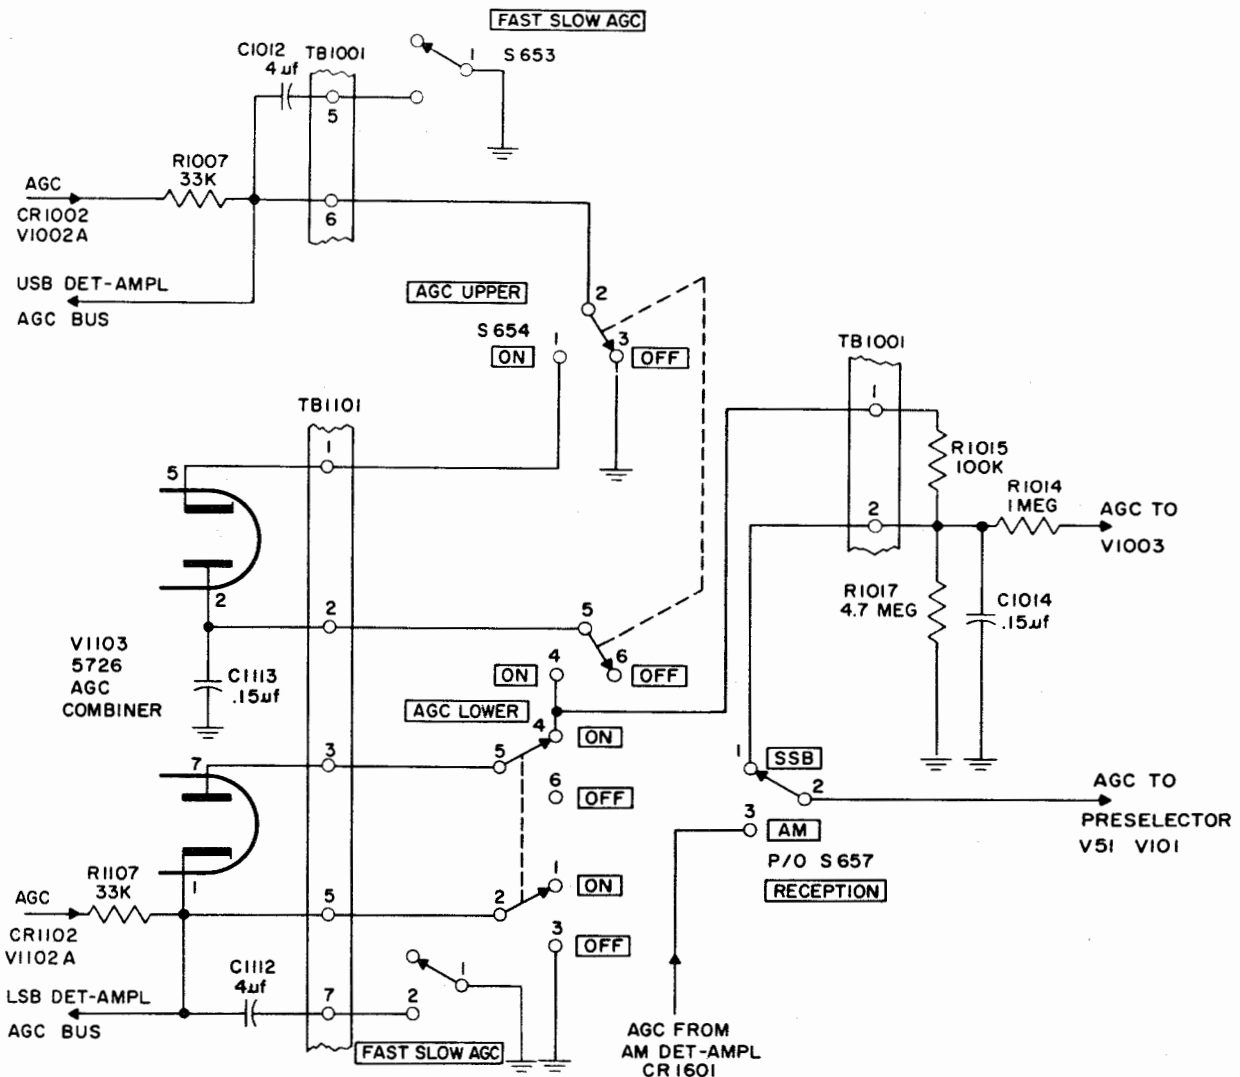

Figure 4-37. AGC Combiner V1103, Simplified Schematic Diagram
b. AGC COMBINER V1103. (See figure 4-37.)—AGC combiner V1103 supplies SSB AGC voltage to the preselector (par. 4-4) when RECEPTION A.M./S.S.B. switch S657 is in S.S.B. position. (When it is in A.M. position the control voltage comes from AM AGC stage CR1601 and the SSB section is cut off.)
Figure 4-37 shows how the USB and LSB detector-amplifiers can be connected, singly or jointly, to a voltage-divider network consisting of resistors R1015 and R1017. The selection is made by the ON/OFF switches labeled A.G.C. UPPER (S654) and A.G.C. LOWER (S655).